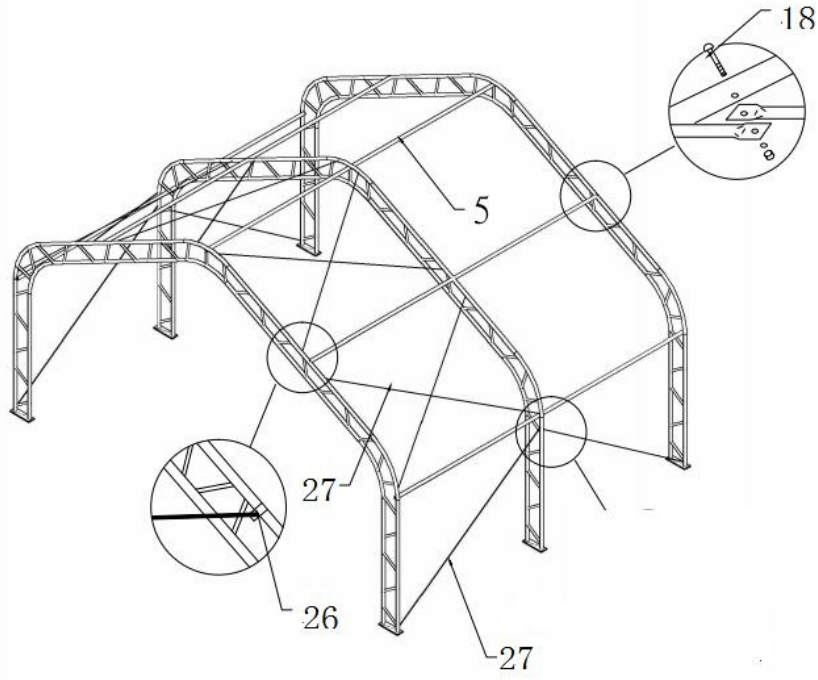

Figure 6
3.Connect Purlin(No.5) to arch by using Bolt 8*80mm (No.18) by turns(see Figure 6),then connect the Steel wire(No.27) on top and side by using Clip(No.26) (see Figure 6).